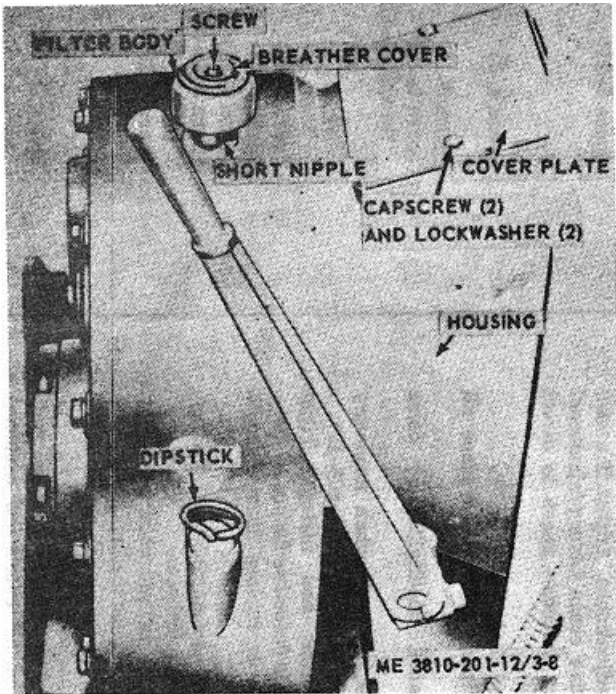

Figure 3-7. Power take-off breather service and cover removal.
(1) Refer to current lubrication order LO 53810-20612 for correct interval, then remove and service power take-off breather as directed below.
(2) Refer to figure 3-7, remove screw and breather cover, then remove filter body from short nipple by turning body counterclockwise. Cover short nipple with a clean cloth to prevent entry of contaminating material into power takeoff.
(3) Clean all parts in an approved cleaning solvent then dry thoroughly with low pressure compressed air.
(4) Inspect filter wire mesh for damage, or other defect to body. Replace a defective filter body.
(5) Install in reverse order.
(6) Refer to lubrication order LO 5-3810-206-12 for interval and lubricant, then change as required.
(1) Refer to figure 3-7, remove two capscrews, lockwashers, and cover plate from housing.
(7) When adjustment is correct, lock adjusting ring by turning pin 1/4 turn clockwise.
(8) Position lock spring in the adjusting ring and secure with lockwasher and screw.
(9) Position cover plate (fig. 3-7) on housing and secure with two lockwashers and capscrews.